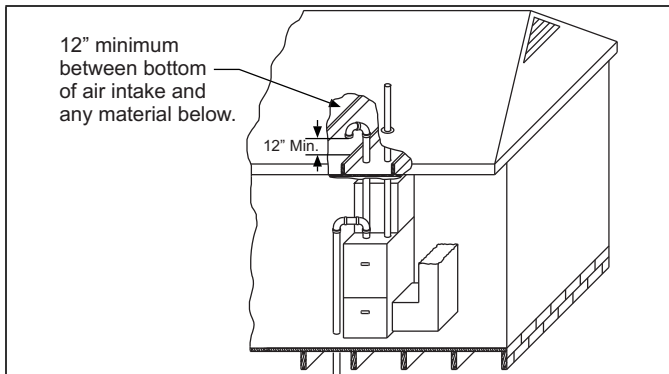

Figure 29: Attic and Crawl Space Combustion Air Termination
- **VENTILATED COMBUSTION AIR:** Combustion air is supplied through a PVC or ABS pipe that is connected to the PVC coupling attached to the burner box and is terminated in a ventilated attic or crawl space. The combustion air and the vent pipes are not terminated in the same atmospheric zone. See Figure 29 for attic and crawl space termination. Only the combustion air intake can terminate in the attic. The vent must terminate outside.
See Figure 29 for required attic termination for the combustion air intake pipe. For attic termination, use two 90° elbows with the open end in a downward position. Make sure to maintain 12 in. (30.5 cm) clearance above any insulation, flooring, or other material.